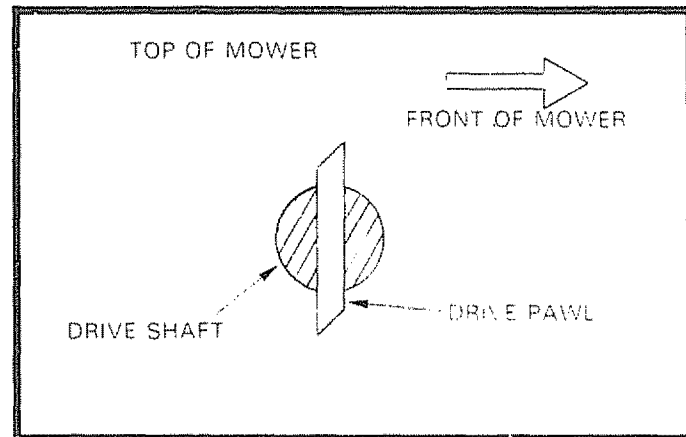

FIG. 20
- If you remove the Drive Pinion and Drive Pawl, refer to fig. 20 for correct assembly of Drive Pawl.